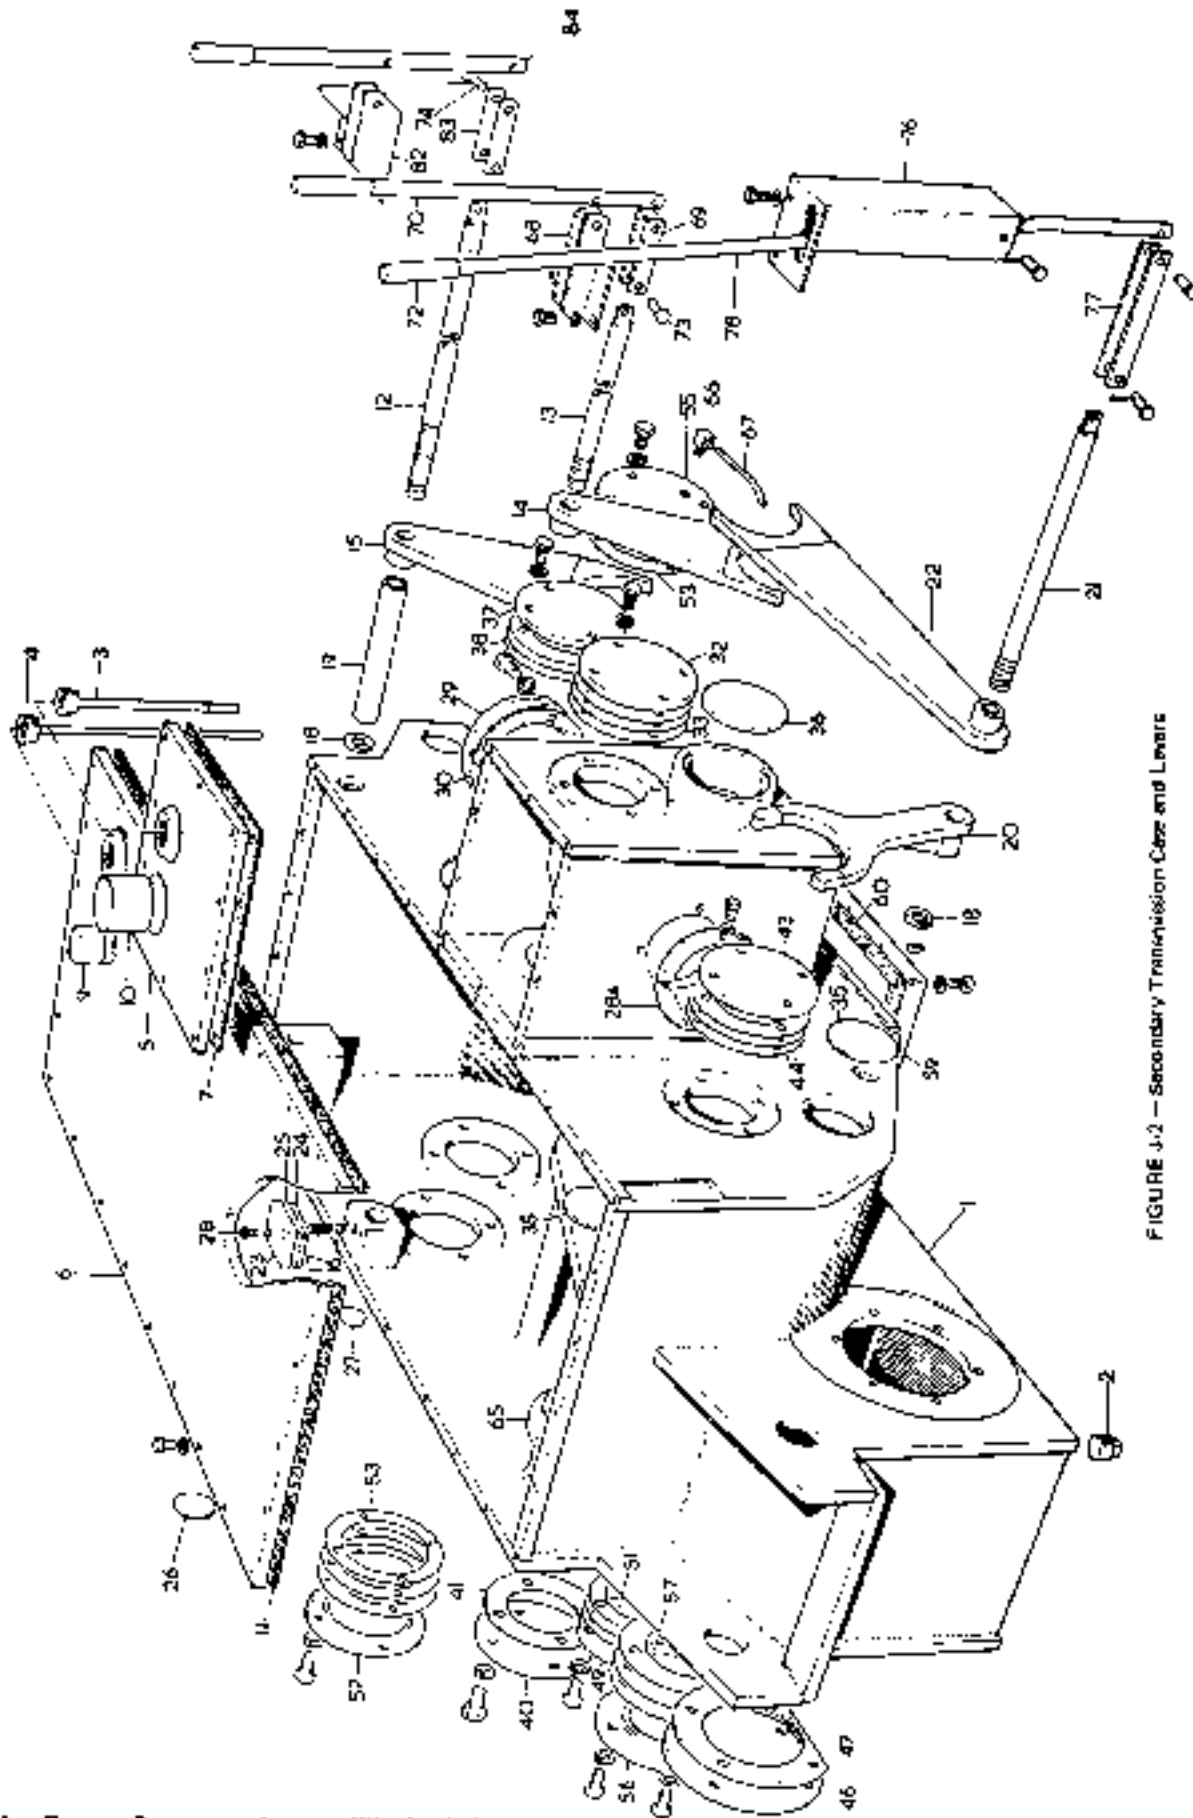

FIGURE J-2 — Secondary Transmission Case and Levers
5. Remove traction clutch brake and traction clutch mounting plate. Strip and remove splined shaft (37).
6. Remove end cap and shims (32 & 33, Figure J-2) and remove shaft (4, Figure J-3). To remove shaft, slide retainer ring (7) toward bevel gear (2). Clamp bevel gear with "C" clamp to transmission wall. Screw threaded puller rod into taped end of shaft, and pull shaft out far enough to remove bevel gear (2). Then remove shaft and helical gear (5).
7. Remove end plug (35, Figure J-2). Strip and remove shaft (28, Figure J-3).
8. Remove end cap (55, Figure J-2). Strip and remove shaft (78, Figure J-3).